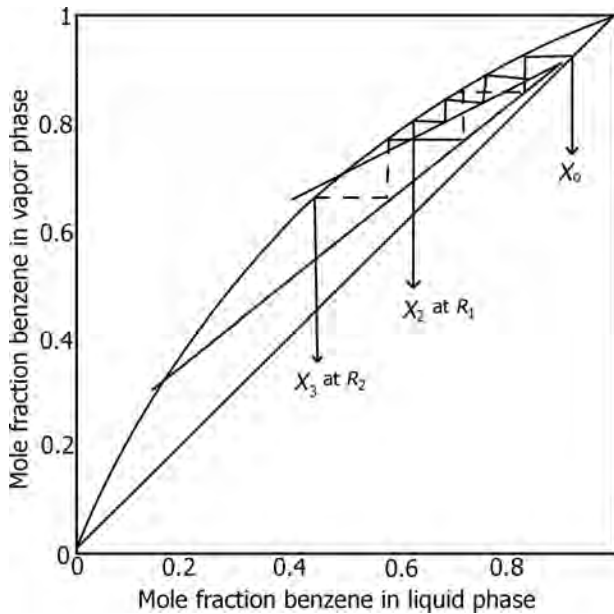

FIGURE 17.21 Batch fractionation at constant distillate composition (for four theoretical trays).
- Figure 17.21 shows the conditions at the start of the distillation and time t .